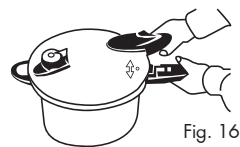

Fig. 16
3. Align the "●" mark on the lid with the "▲" mark on the pot handle (Part 13) and open the lid (Fig. 16).